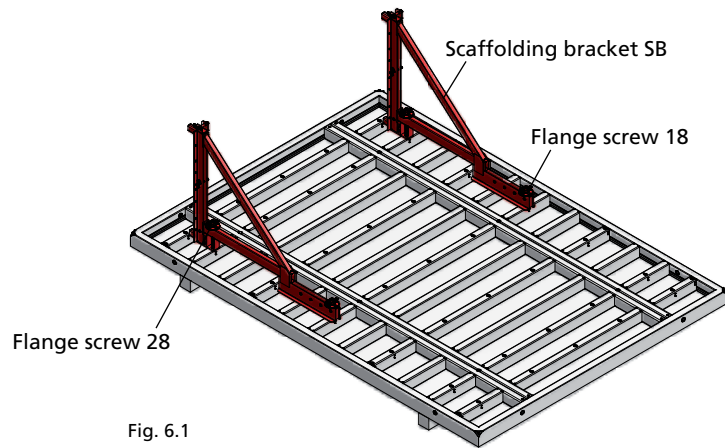

Fig. 6.1
1. Attach the scaffolding brackets SB to the panel's multi-function profile with a flange screw 28 and a flange screw 18 (Fig. 6.1). The flange screws must be ordered separately.